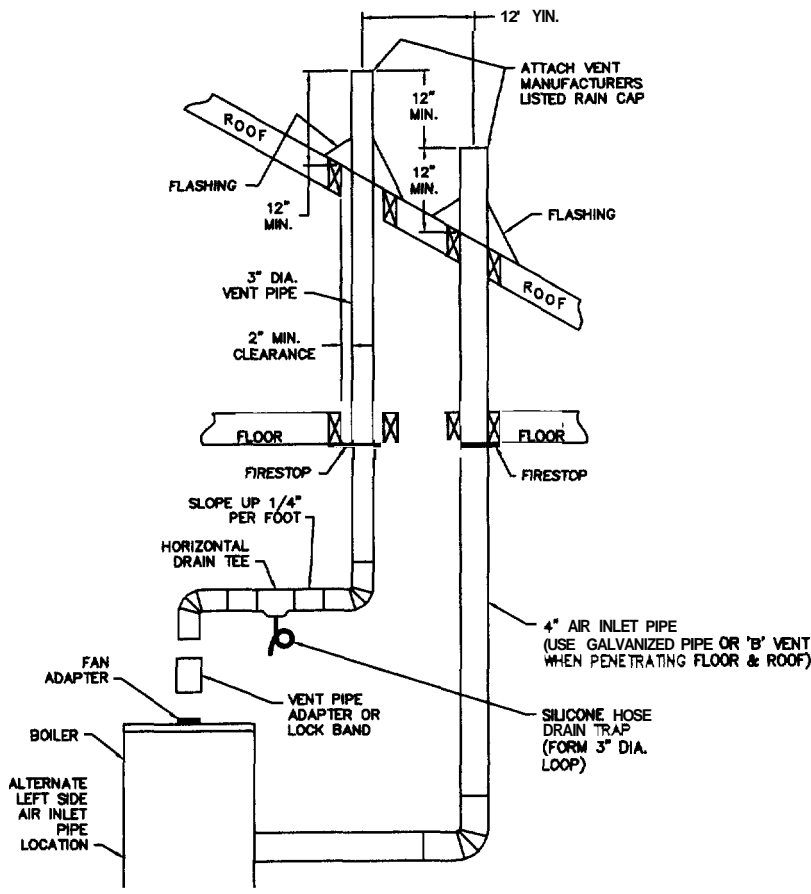

Figure 10: Vertical Venting System
5. a. **Std Wall Venting Only** - If lengths of the vent in shall slope **down** at less than 1/4" per foot from the boiler to the vent terminal. If vent pipe does pitch back toward boiler a water drain is as described in 5B and Figure 10.
b. **Vertical Venting Only** - A horizontal drain tee is required. Slope horizontal pipe **upward** at least 1/4" per foot from the boiler to the vent terminal. Install drain as shown in Figure 10. Use silicone hose clamp as 3" loop trap if a water drain. Pipe to drain per local code.
6. For horizontal lengths of pipe to prevent sagging use of metal hangers or equivalent means. Locate supports at not more than four (4) foot intervals.
2. Vent pipe and air inlet pipe **must** terminate 12" above expected snow lines. Vent pipe must be a minimum 12" above and 12" horizontally from air inlet pipe. See Figure 10.